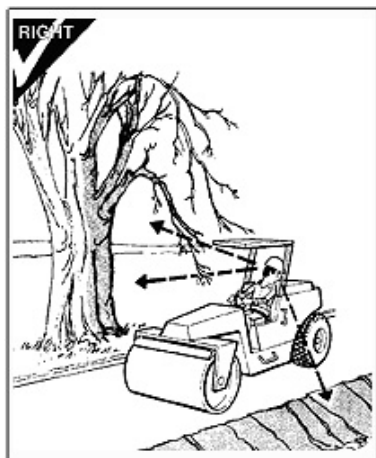

Figure 1-11
- Avoid operating the machine on the bed of roads, ditches, and similar terrains, as wet pavements or damaged parts reduce the load capacity of the compactor. Be careful of obstacles at height from the machine, like suspended cables or branches (figure 1-11).